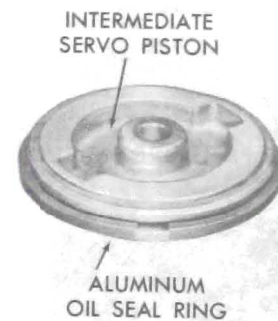

Figure 75-288
1. Install metal oil seal ring on the intermediate servo piston. See Figure 75-288.